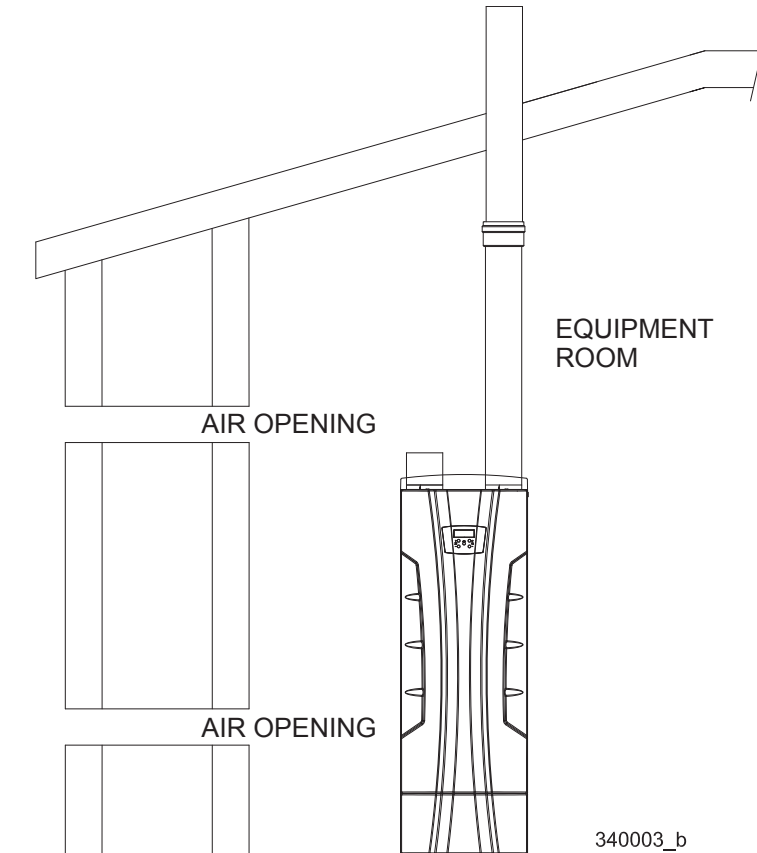

Figure 5-2 Combustion Air through Ducts
2. If combustion and ventilation air is taken from the outdoors using a duct to deliver the air to the equipment room, each of the two openings should be sized based on a minimum free area of one square inch per 2000 Btu/hr (11 cm² per kW) of input (see Fig. 5-2).